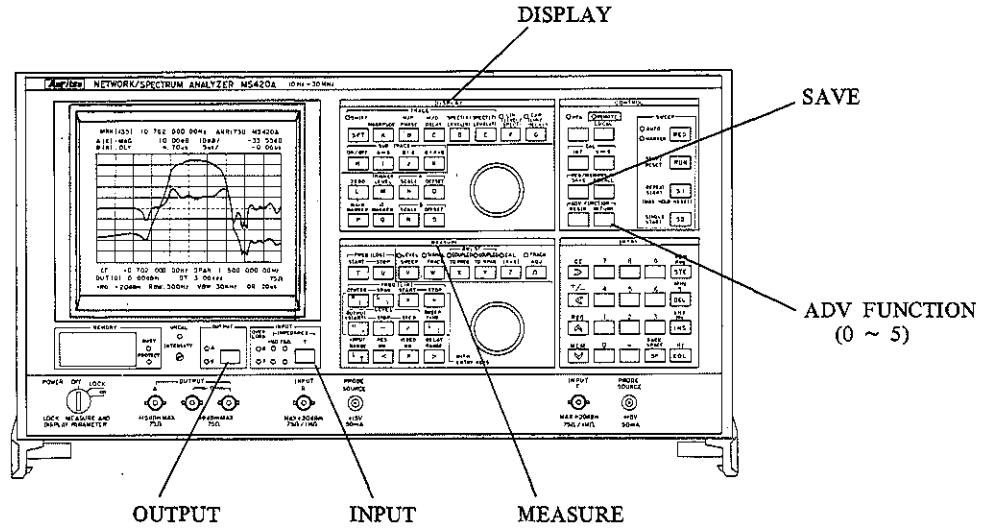
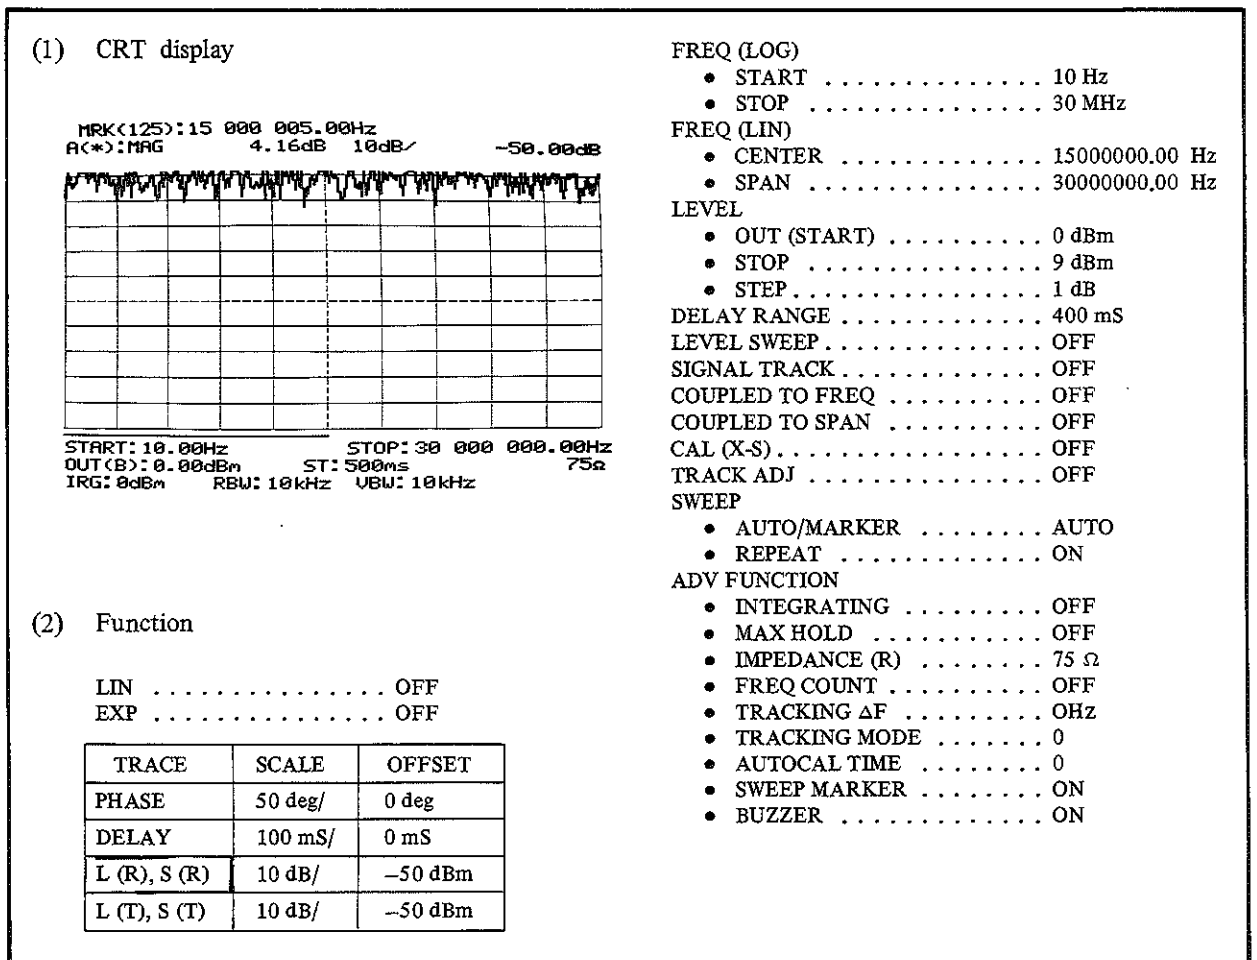

Fig. 2-18 Panel LOCK
Fig. 2-19 Initial Status
- (b) LOCK mode: Power is on, but the keys indicated in Fig. 2-18 can not operate. When the power is on, the initial status of the front panel is as shown in Fig. 2-19.